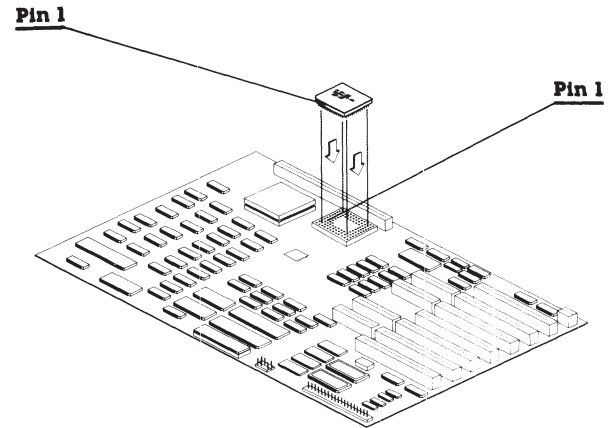

Figure 7-48. Aligning the 387 Coprocessor.
2. Locate pin 1 on the coprocessor (indicated by a notched corner), and align the coprocessor so that pin 1 on the coprocessor matches pin 1 on the coprocessor socket (Figure 7-48).